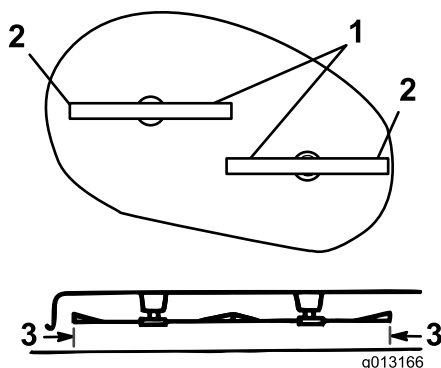

Figure 45
1. Carefully rotate the blades side to side (Figure 45).
2. Measure between the outside cutting edges and the flat surface (Figure 45). Ensure that the measurements are within 3 mm (1/8 inch) of each other. If they are not, go to the next step.
4. Raise or lower the right side of the mower housing by turning the nuts until the distance from the outside edges of the blades to the flat surface (Figure 45) are within 3 mm (1/8 inch) of each other, and tighten the nuts on the front and rear adjustable links.